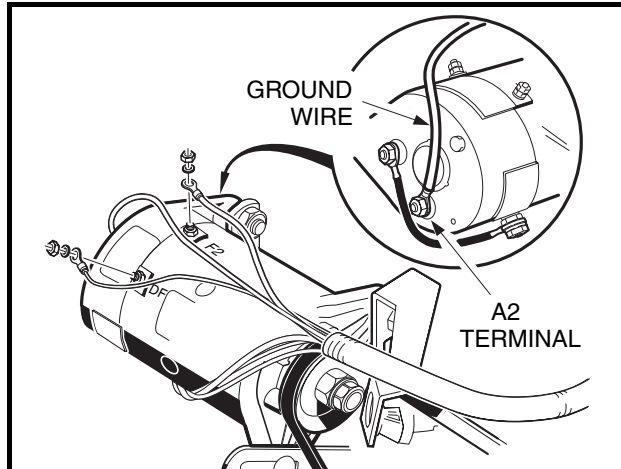

Figure 11-9 Starter/Generator Ground Cable Test
- 2.1. Set the multimeter to 200 ohms. Place the red (+) probe on the A2 terminal of the starter/generator and place the black (–) probe on the vehicle frame (**Figure 11-9, Page 11-16**). The reading should be continuity. If there is no continuity, clean and tighten cable connections. If the connections are good, repair or replace the cable.